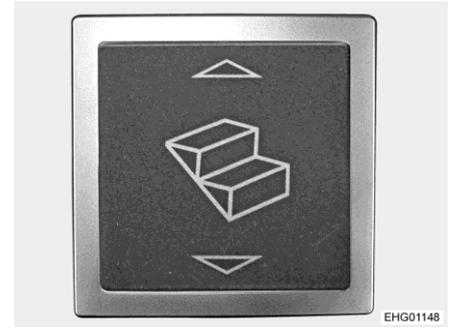

Fig. 6 Rocker button for entrance step (entrance area)
- Press the rocker button (Fig. 6) situated in the entrance area. The entrance step extends horizontally.